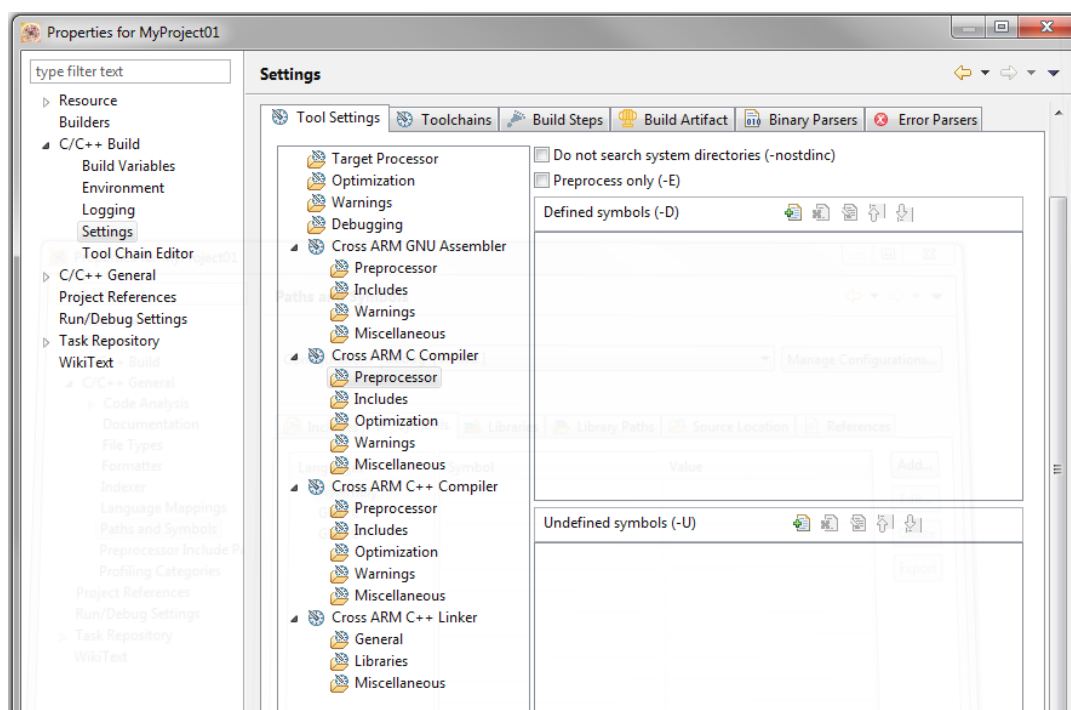

Figure 1-12. Defined symbols
2. Expand the C/C++ Build node and select Settings. See Figure 1-12.
3. In the right-hand part, under the Cross ARM C compiler node, click the Preprocessor node. See Figure 1-12.